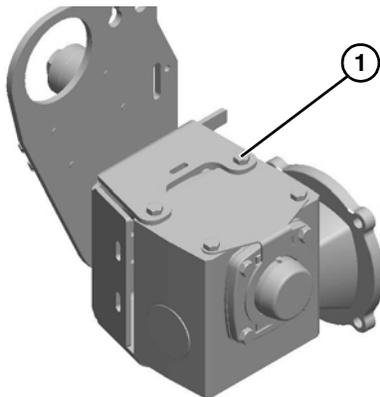

Figure 23
5. Remove four gear reducer mounting bolts (**Figure 23, item 1**). Remove gear reducer.